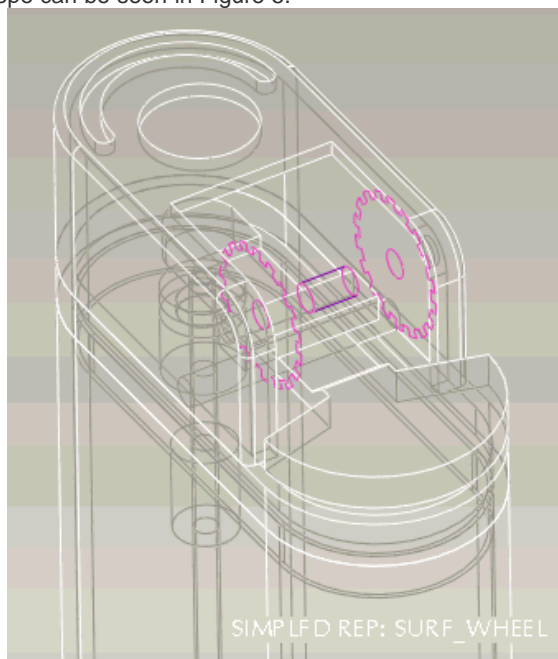

Figure 5
4. The results of substituting the "wheel" envelope can be seen in Figure 5.